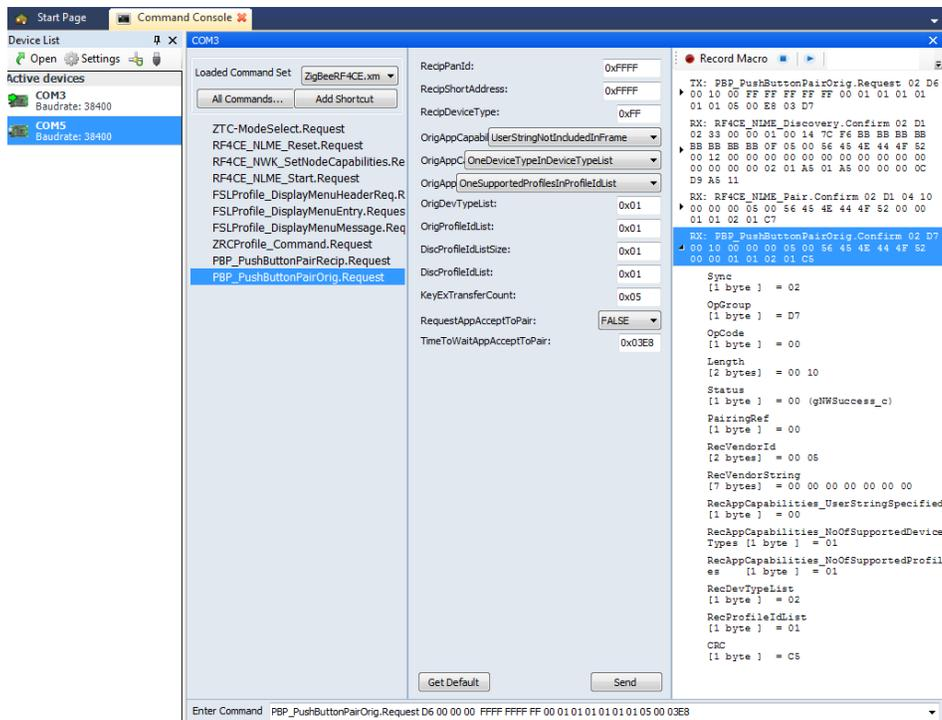

Figure 4-7. Push Button Pair Originator parameters
10. On the controller device, click on All Commands ->RF4CE layer command->PBP_PushButtonPairOrig.Request command and set the parameters in the Request as shown in Figure 4-7. Do not send the command yet.